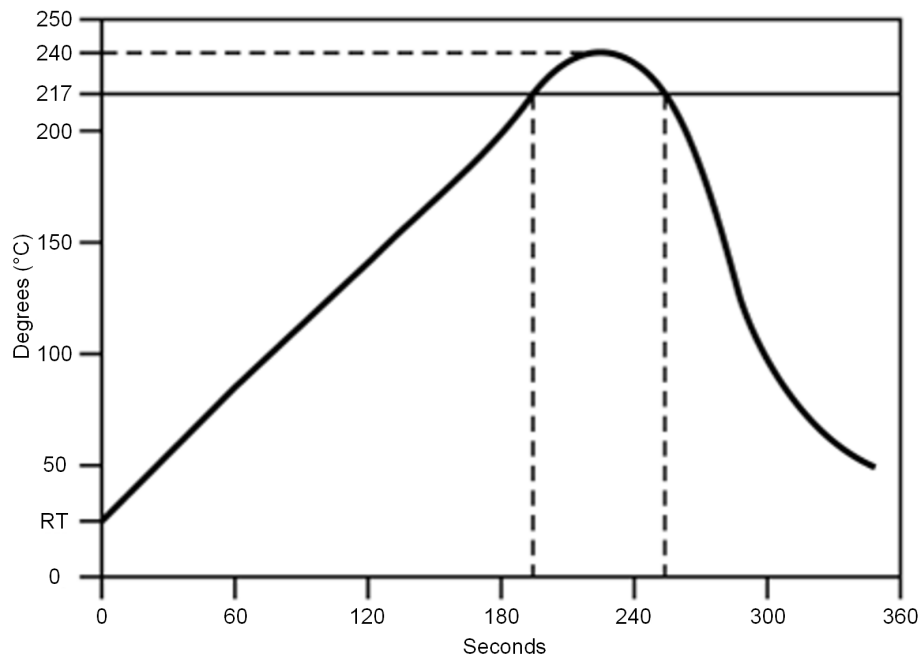

Figure 8-1. Temperature Profile for Evaluation of Solder Heat Resistance of a Component (at Solder Joint)
- Temperature measurement: Thermocouple $d = 0.1 \text{ mm}$ to 0.2 mm CA (K) or CC (T) at soldering portion or equivalent method
- Allowable reflow soldering times: 2 times based on the reflow soldering profile (see Figure 8-1)
- Temperature profile: Reflow soldering will be done according to the temperature profile (see Figure 8-1)